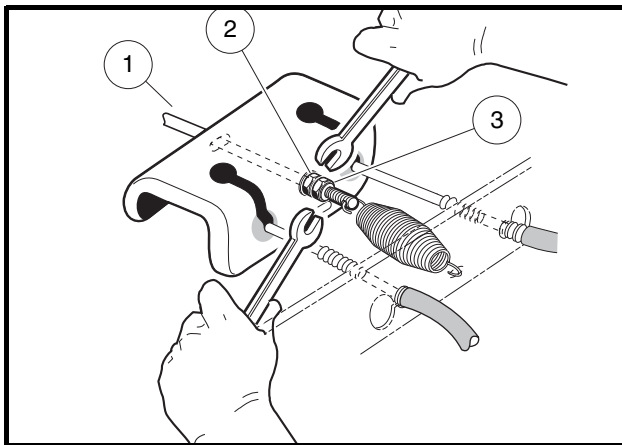

Figure 5-20 Loosen Rear Brake Equalizer Rod Nuts
- 2.2. To provide slack in the brake cables, loosen the equalizer retaining nuts (2 and 3) on the equalizer rod (1) (**Figure 5-20, Page 5-16**).